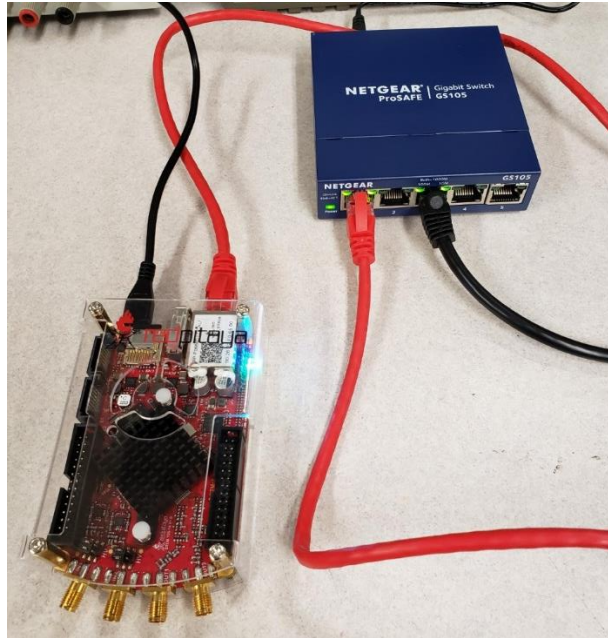

Figure 1: Set Up Between FPGA and Switch/Hub
- b. If FPGA Ethernet is plugged into switch/hub, take the second Ethernet cable and plug it into the Ethernet port of the computer/laptop. Shown in Figure 1 below: